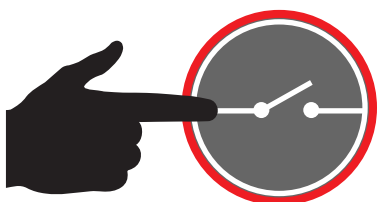

Figure 169. Main Circuit Breaker OFF Button
3. On generator #1, press the **Main Circuit Breaker OFF button** (Figure 169) on the touch display.